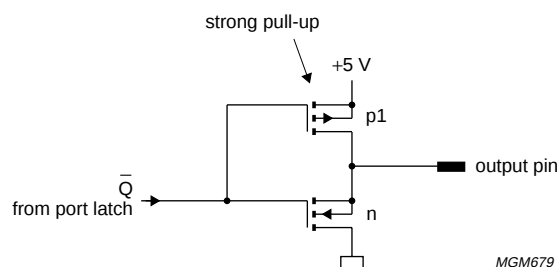

Fig.7 Push-pull port.
2. Push-pull; gives drive capability of the output in both polarities, see Fig.7.